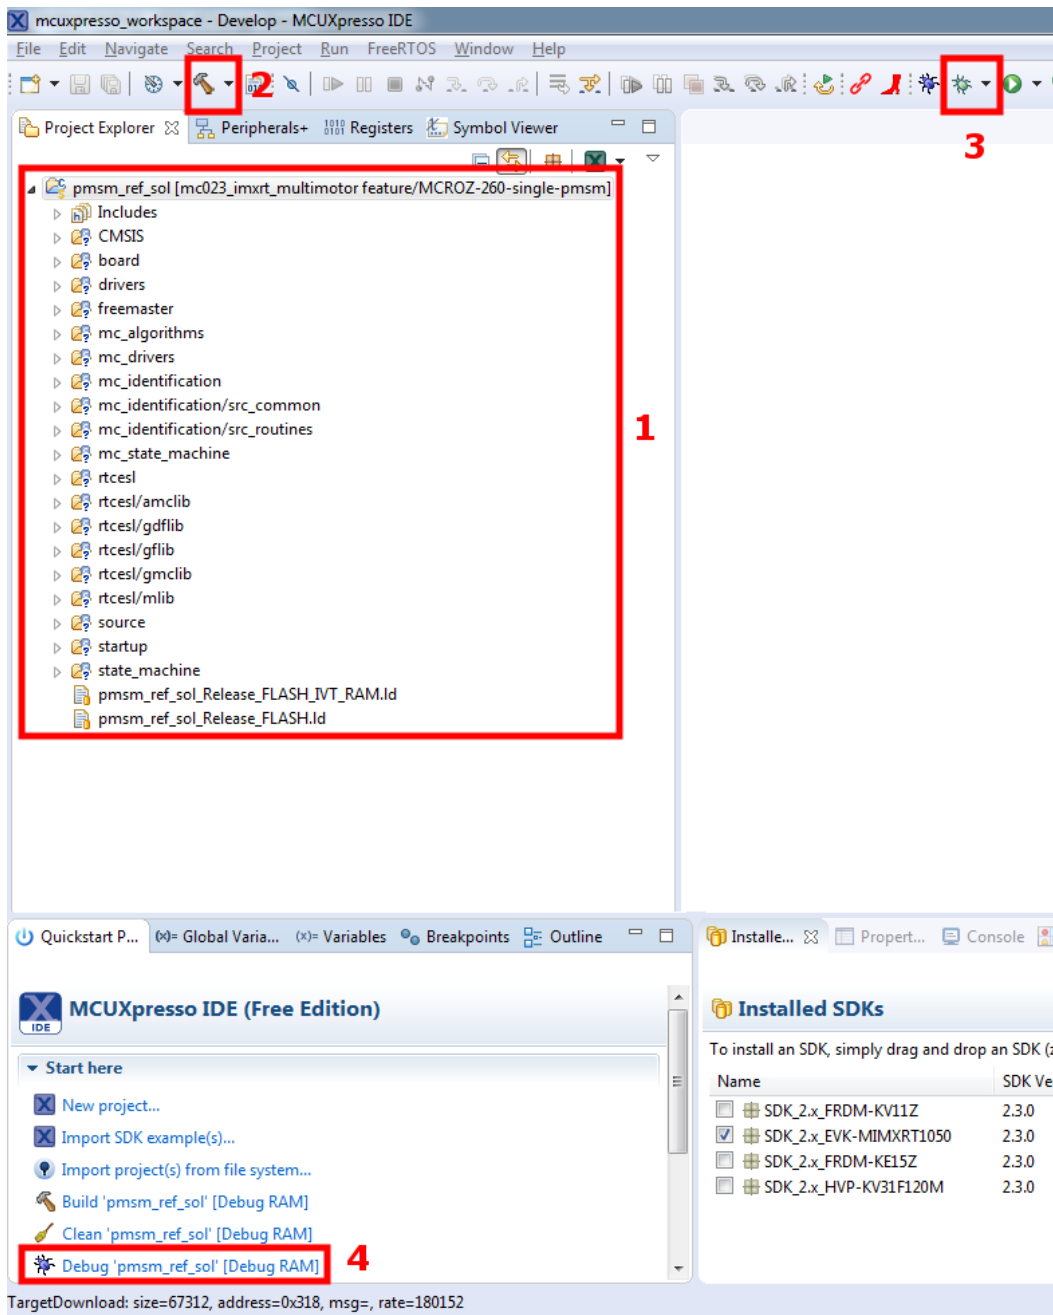

Figure 11. MCUXpresso workspace
Now you see the MCUXpresso's workspace with the PMSM project imported (Figure 11). The project in the MCUXpresso IDE is fully configured and includes all necessary source and header files required by the application, such as the startup code, clock configuration, and peripherals configuration.
1. Select the “Debug RAM” build configuration (Point 2 in Figure 11).
2. Click the “Build” button (Point 2 in Figure 11).
3. Create a new debug configuration by clicking the “Debug” button (Point 4 in Figure 11). A new window with the discovered probes appears (see Figure 12). Choose “DAPLink CMSIS-DAP” and click the “OK” button.
4. In a few seconds, the compiled application is downloaded to the MIMXRT1050-EVK’s RAM memory. As shown in Figure 11, the layout is switched to the debugging mode. The program execution stops at the “main” function.